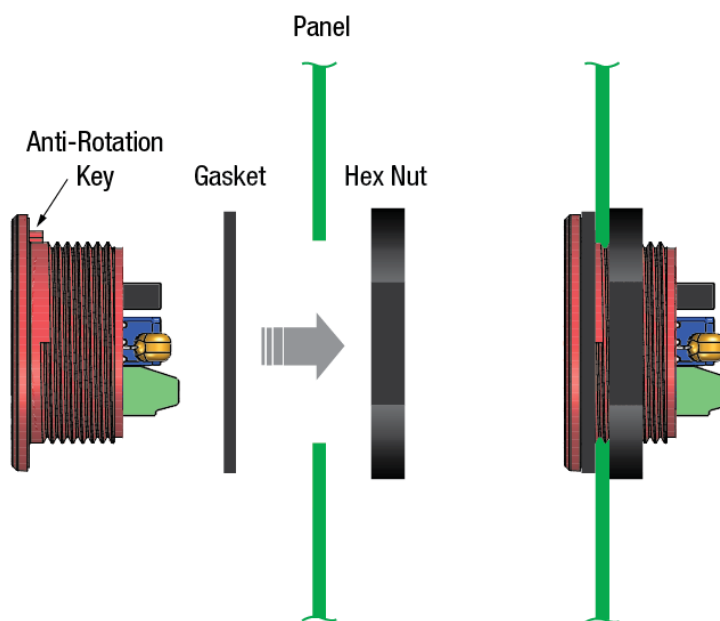

Figure 2. Panel Installation
**4. Panel Installation:** Other than the factory-supply thermistor probe connected to TB2, all electrical connections to DMR20-1-TMP must be made after the unit is securely attached to the panel, and with its DC supply input de-energized (off). In high-vibration environments, adequate strain reliefs must be used on all wiring connected to TB1 and TB2. See Figure 2 for typical panel mounting details.